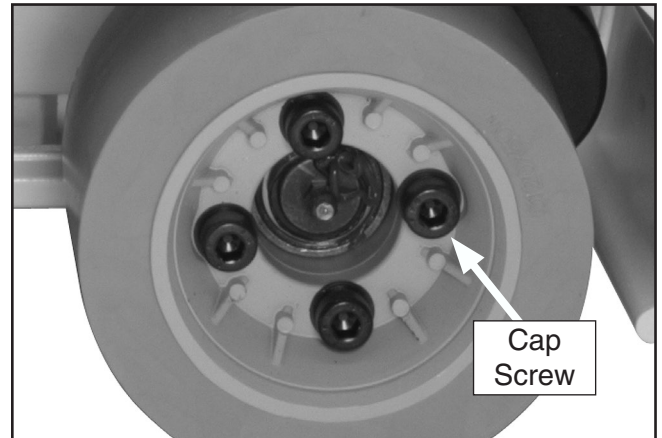

Figure 16. Wheel replacement.
2. Using a 5mm hex wrench, remove the two wheel retaining cap screws (**Figure 16**).